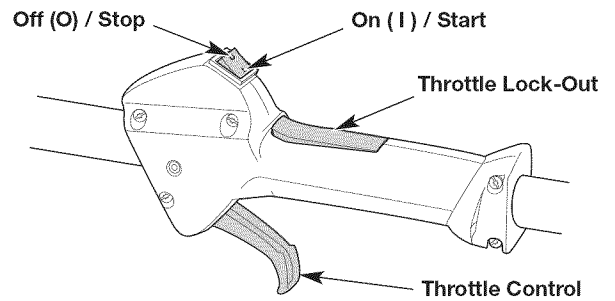

Fig. 9
**NOTE:** There is no need to turn the unit on. The On/Off switch is in the ON ( I ) position at all times (Fig. 9).
6. **DO NOT** squeeze the throttle control (Fig. 9). Pull the starter rope with a controlled and steady motion until the unit starts (Fig. 12).
2. Press and hold the On/Off switch in the OFF (O) position until the engine comes to a complete stop (Fig. 9).
6. **DO NOT** squeeze the throttle control (Fig. 9). Insert the Speed Start™ accessory into the Speed Start™ port (Fig. 22). Refer to the *Operation* section of the Speed Start™ accessory operator's manual.